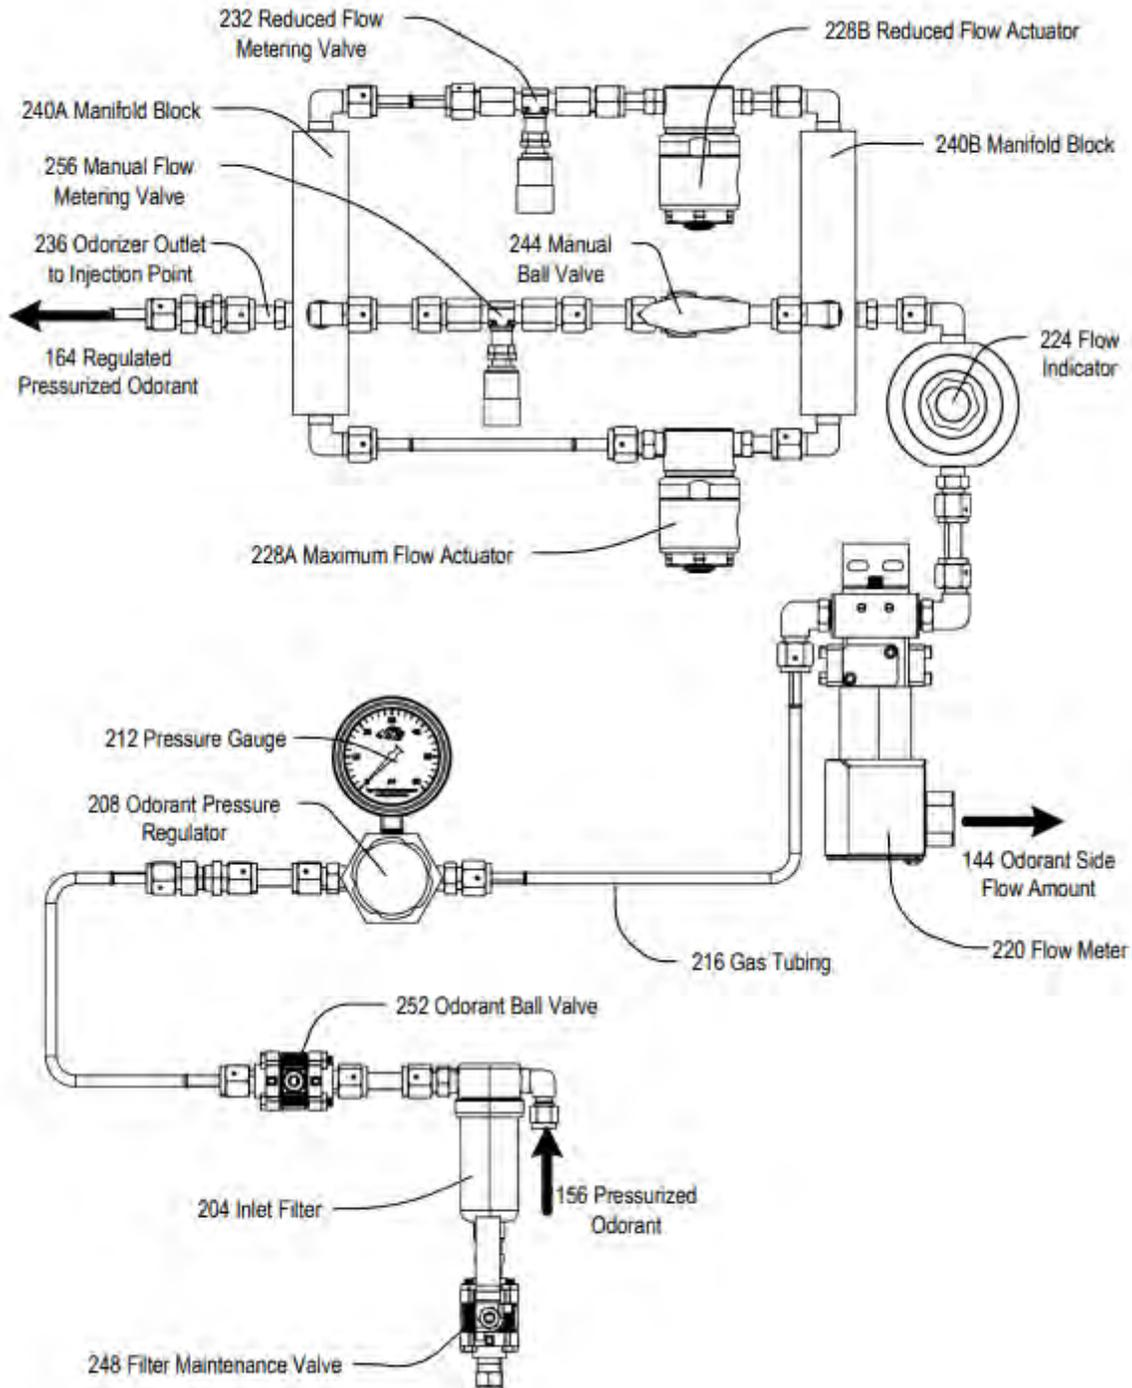
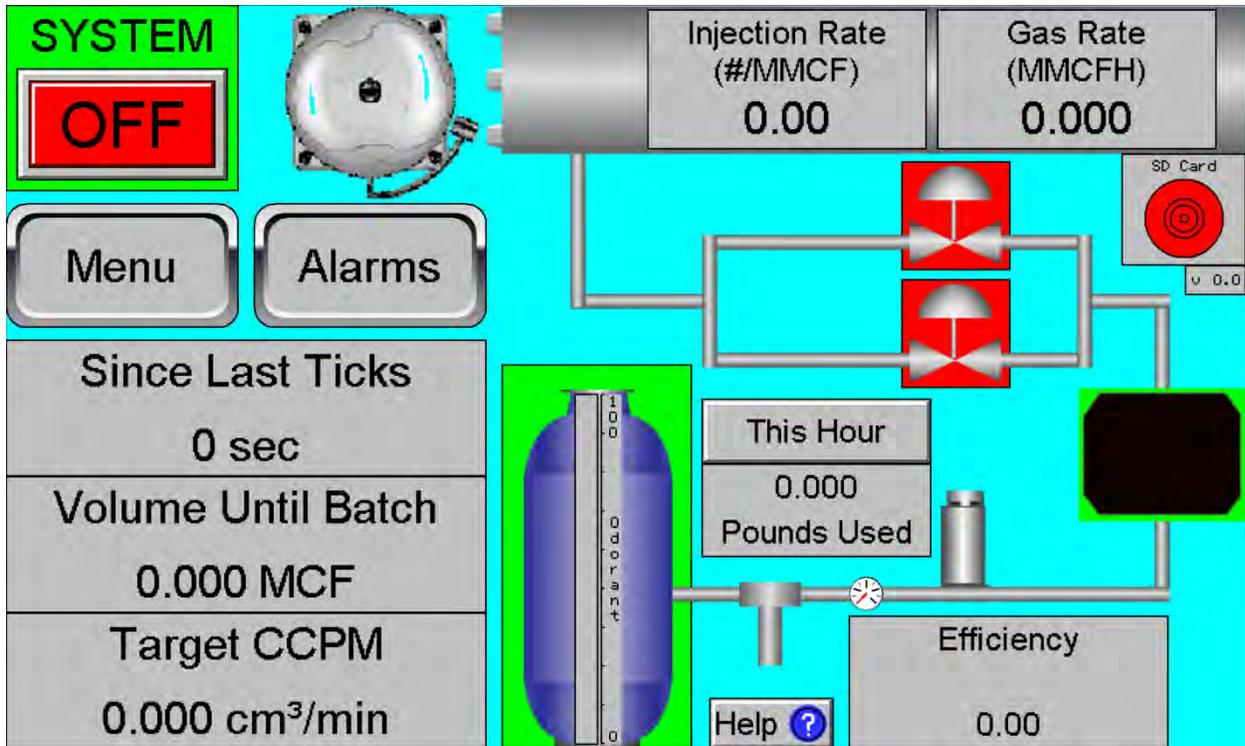

Figure 15
Figure 19
5. If the user's model of the GPL 5000 has a manual override knob on the solenoids, ensure the solenoid override knobs (228B and 228A in Figure 15) are closed. (The arrow on the knobs should point to the C position.)
6. Close the metering valves (232 & 256 in Figure 15) by turning the handles clockwise.
7. The ball valves (252 and 244 in Figure 15) should be closed.
8. Back the regulator (208 in Figure 15) out fully by turning the handle counterclockwise fully.
9. The odorizer is now ready to be turned on. On the home page, push the “System” button. It should turn green and read “ON.” The solenoid should click, and the first valve, in Figure 19, turns green, indicating that a batch is in progress.
- a. If the unit is receiving a 4-20mA signal of the unodorized media or is being run in “Man Gas/Fluid,” the “Volume Until Batch” is the best troubleshooting indicator of how to set the metering valve. At the start of the batch, the unit should start counting down, decreasing from 0. While the unit counts down (negative numbers), open up the reduced flow metering valve (232 in Figure 15) until the “Volume Until Batch” counts up instead of down. The “Volume Until Batch” should ultimately become a positive number and meet the required batch volume. The solenoid turns off now, and the valves shown in Figure 19 are red for closed. At this point, ensure that the pressure regulator still shows 5 PSIG over the pipeline, that the “Volume Until Batch” counts upward to a positive number and then repeats counting down to zero. During a batch, it is also a good idea to ensure the fluid is moving into the pipeline by looking at the site glass of the pipeline tap kit.